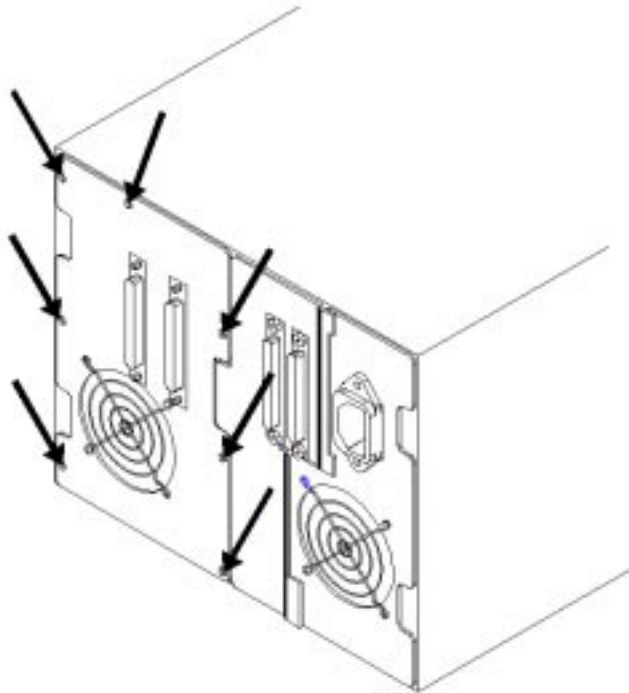

FIGURE 4-3 Screw Locations
3. Remove the seven screws on the drive’s rear plate. See FIGURE 4-3 for screw locations.
3. **Install the seven screws on the DLT drive's rear plate. See FIGURE 4-3 on page 4-4 for screw locations.**